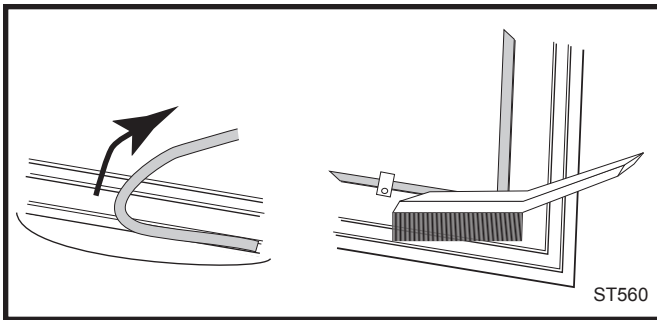

Fig. 41 Remove gasket then clean channel with wire brush.
1. Remove the existing gasket by grasping an end and pulling firmly. (Fig. 41)
2. Use a wire brush or the tip of a screwdriver to clean the channel of any remaining cement or bits of gasket. Remove stubborn deposits of cement with a cold chisel if necessary. (Fig. 41)